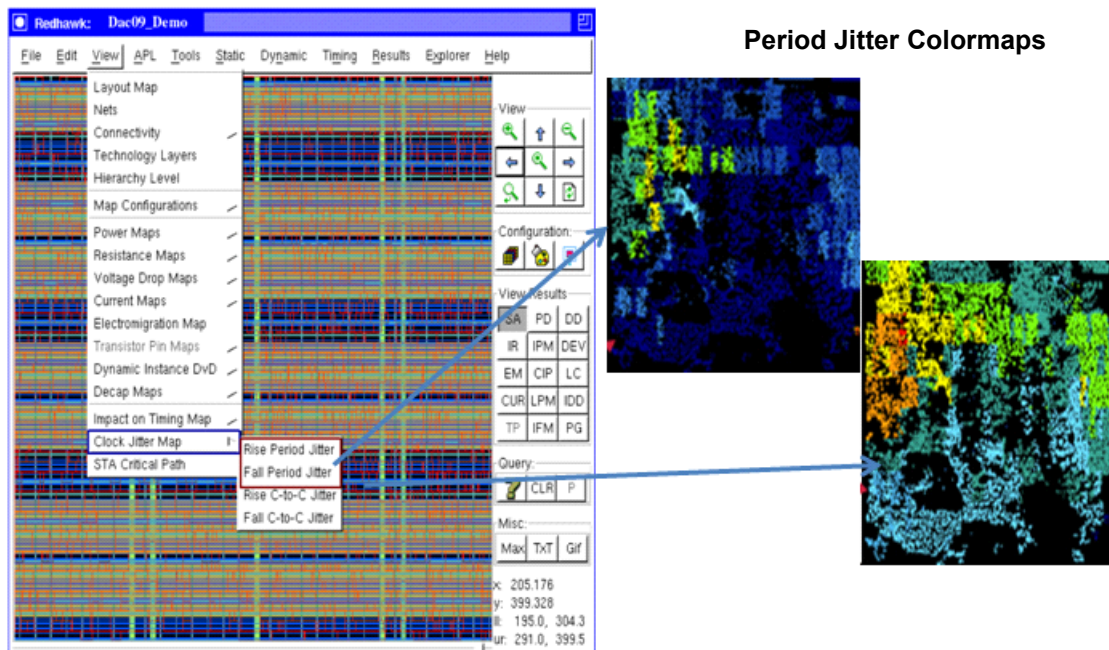

Figure 8-19 Period jitter colormaps
- Period jitter instance colormaps - Click on **View->Clock Jitter Map->Rise/Fall Period Jitter**. The selected colormap is displayed (see Figure 8-19). This can also be displayed using the TCL 'show jitter' command.